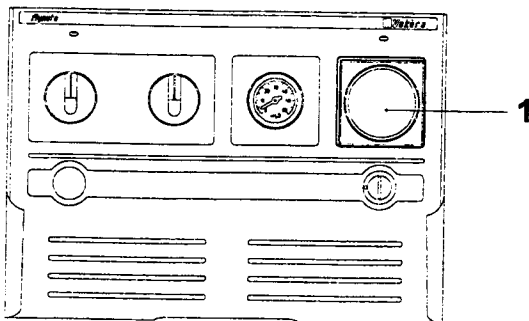

Fig. 1
- (A) Fitting Vokera 24 hour time switch (part no. 032 G.C. no. 301 110), fitting Vokera digital 7 day time switch (part no. 05 G.C. no. 301 109) and Vokera 2 channel programmer (7 Day) (part no.081 G.C. no. 370 395).**
- (B) Wiring to external time switches, room thermostats and frost thermostats.**
- (C) Wiring to 'Y' plan or 'S' plan installations.**
Remove the clock aperture blanking plate (1) (fig. 1) by squeezing the four lugs on the rear of the plate together and push the plate out.
Remove the clock aperture blanking plate (1) Fig. 1. by squeezing the four lugs on the rear of the plate together and push the plate out.